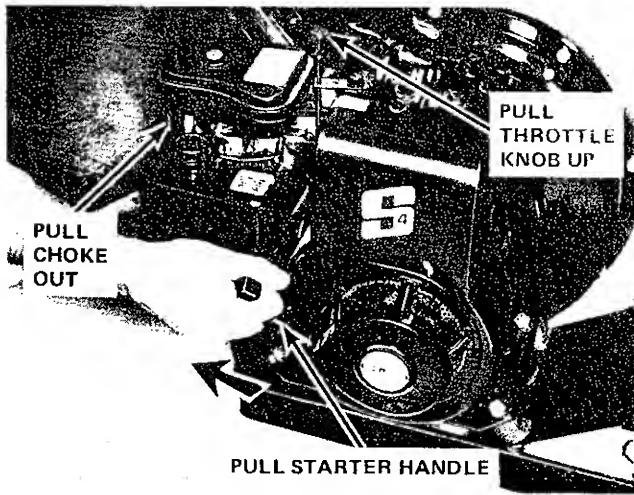

FIGURE 8
2. Pull engine choke plunger out to CHOKE position (Figure 8).
4. Grasp recoil starter handle firmly in your right hand and pull sharply straight out until engine starts. (Figure 8) After the engine starts, return choke or plunger to OFF position. If the engine fails to start after four or five pulls, it may be flooded. Return the choke lever or plunger to OFF position and pull the starter handle to clear the excess fuel.